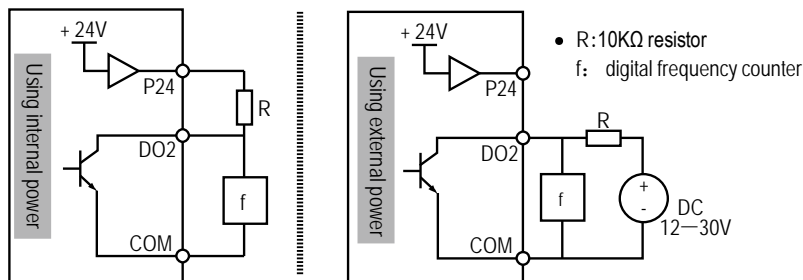

Figure 4-14 DO2 terminal connection
2. The frequency signal output terminal DO2 can use the inverter's internal 24V power supply or the external power supply. The connections are as shown in Figure 4-14.